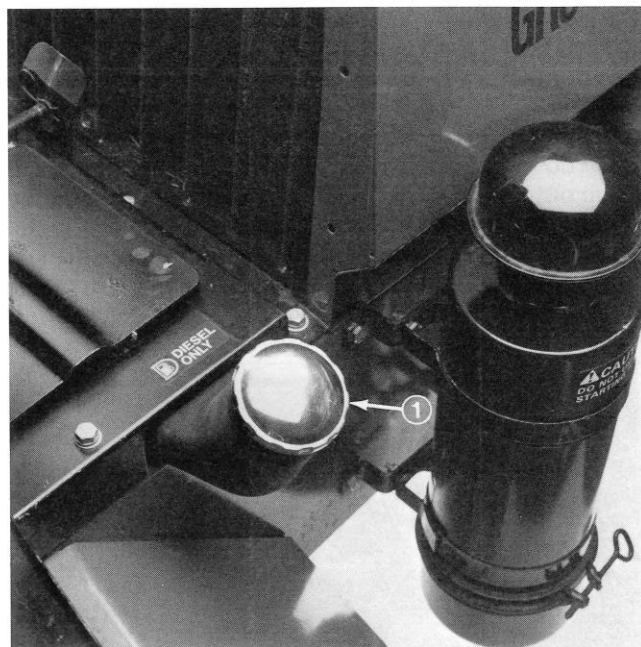

Figure 15
2. Remove cap from the fuel tank (Fig. 15) and fill the 8 gallon (34 L) tank to within 1 inch (25 mm) from the top with diesel fuel. Install fuel tank cap tightly after filling tank.